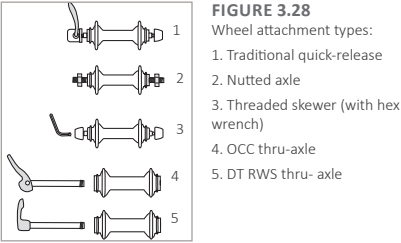

FIGURE 3.28
See these devices in Figure 3.28:
1. Move the lever of the quick-release to the OPEN position (Figure 3.28) and set the wheel so it fully touches the inner surfaces of the fork ends.
3. Lock the quick-release; with the lever in the palm of your hand, move the lever as shown in Figure 3.28 to the CLOSE position. When you move the lever to the adjustment position, you should feel some resistance.
- Do not hold the nut and only turn the lever like a wing-nut (Figure 3.28). Even turning the ‘wing-nut’ as tight as you can, this will not make sufficient force to hold the wheel.
1. Release the quick-release lever; move it to the OPEN position (Figure 3.28).